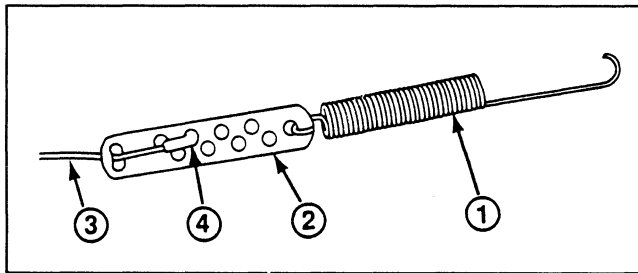

Figure 4
INSTALL CONTROL CABLE (Fig. 4–5)
2. Hook spring to round hole at end of cable adjuster (Fig. 4).
3. Route cable through elongated hole in cable adjuster. Insert Z fitting on end of cable into 3rd hole on cable adjuster (Fig. 4).